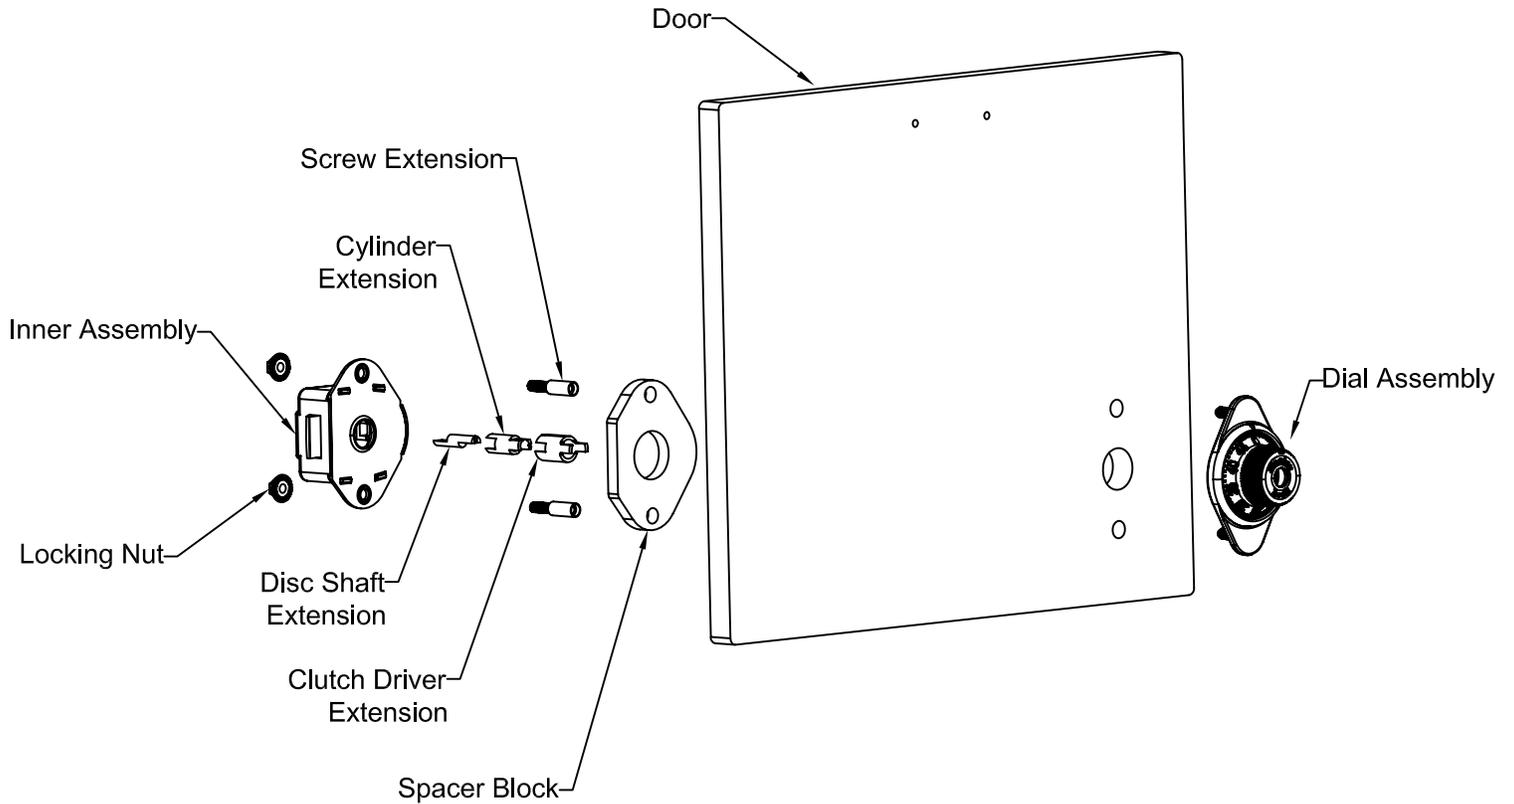

Figure 6.1: Built-In Combination Lock Installation
- 8.2 Set dial to "0" at red marker, then proceed to separate Dial Assembly from Inner Assembly, see Figure 6.1.